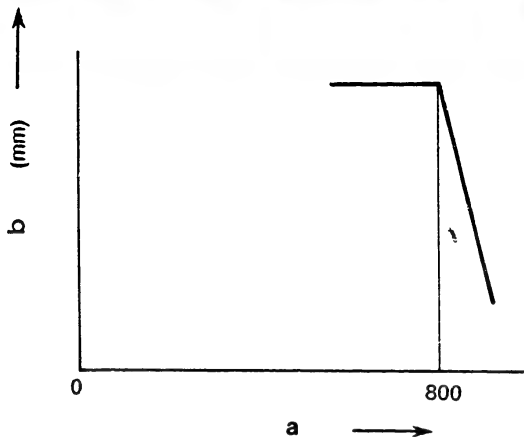

Fig. 143
2. Temporarily set the speed control lever so that governor control starts at a pump speed of approximately 800rpm (refer to Fig. 143).